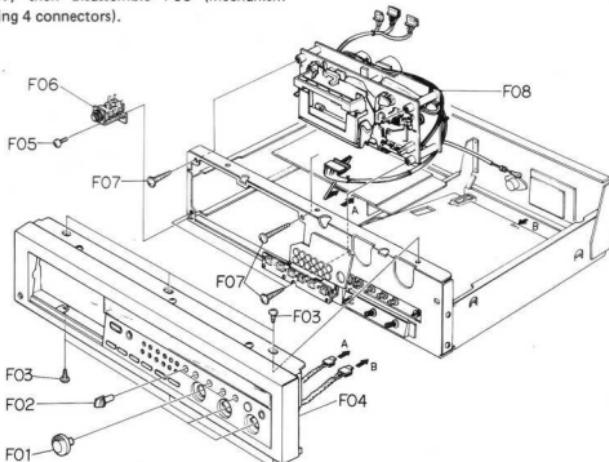

Fig. 3.2
Refer to Fig. 3.2.
- (1) Refer to Fig. 3.2. Remove Front Panel Ass'y referring to item 3.4.
- (2) Remove the flat cable, connectors and wires connected by wrapping from F04 (Main P.C.B. Ass'y).
- (3) Remove F01, F02, F03 and the Record Linkage Wire from the Wire Holder assembled with Record Switch, then disassemble F04 (Main P.C.B. Ass'y).
- (2) Remove the connectors and wires connected by wrapping from F06 (Logic P.C.B. Ass'y).
- (3) Remove F05, then disassemble F06 (Logic P.C.B. Ass'y).
- (2) Remove F10, then disassemble F11 (Volume P.C.B. Ass'y).
- (2) Remove F12, then disassemble F13 (Control Button Ass'y).
- (2) Remove F14, then disassemble F15 (Record Cal. P.C.B. Ass'y).
- (2) Remove F01 and F02, then disassemble F03 (Meter Ass'y).
- (1) Refer to Fig. 3.2. Remove Mechanism Ass'y referring to item 3.5.
- (2) Push the Eject Button to open the Cassette Case Ass'y.
- (3) Remove F01, then disassemble the piston of the Air Damper Ass'y.
- (4) Remove F02 and F03, then disassemble F04 (Cassette Case Ass'y).
- (3) Remove F05, then disassemble F06 (Cover Plate).
- (2) Remove F07, then disassemble F08 (Tape Counter Ass'y).
- (2) Remove F01 and F02, then disassemble F03 (Flywheel Holder Ass'y) and F06 (Capstan Belt).
- (3) Remove F04, then disassemble F05 (Capstan Motor Ass'y).
- (4) Remove F07 (Supply Flywheel Ass'y), then disassemble F08 (Take-up Flywheel Ass'y).
- (5) After removing both Flywheel Assemblies, disassemble F09 (Thrust Washer 3.1 mm), F10 (Thrust Washer 2.6 mm), F11 (Flange Thrust Caps) and F12 (Flywheel Thrust Springs).
- (2) Remove Flywheel Holder Ass'y and both Flywheel Assemblies referring to above item 3.20.
- (3) Remove F01 and F02, then disassemble F03 (Sub Mechanism Chassis Ass'y).